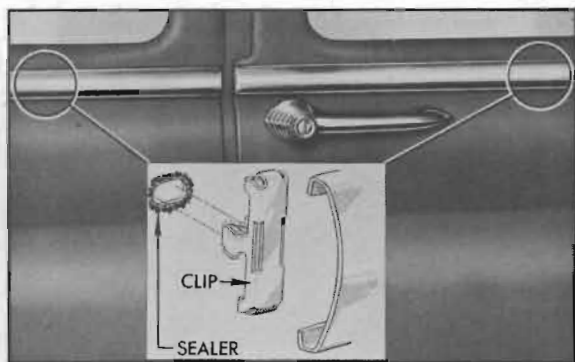

Figure 13-39—Belt Molding Installation—Series 40 Closed Body
3. Before installation of belt molding check all retaining clips for damage and replace if necessary. Apply 3-M Autobody Sealer around the clip attaching hole before pressing clip into place on door panel. See figure 13-39. On front doors apply Sealer over the forward two retaining clips to effect a watch-tight seal.